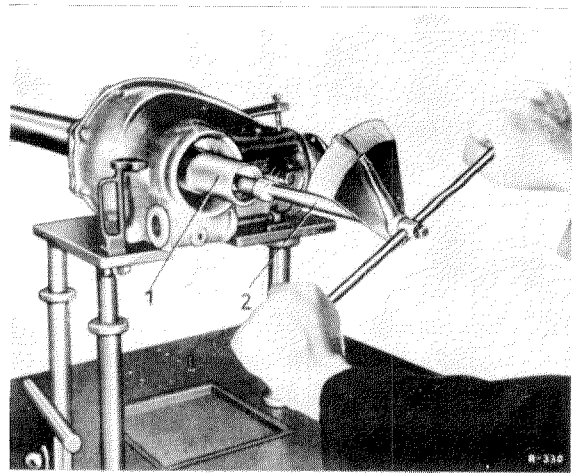

Fig. 35 — 4/38
99. After the specified torque value has been obtained, tighten the threaded ring  $\frac{3}{4}$  to 1 notch (see Fig. 35 — 4/37).